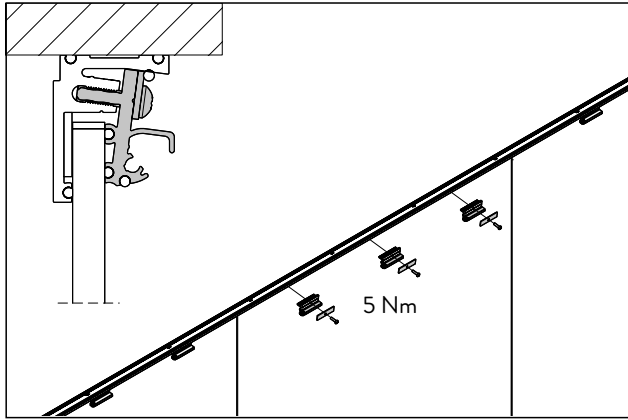

Fig. 7 Attaching the overpanel
5. Attach the overpanel with three glass clamping pieces per meter (Fig. 7).